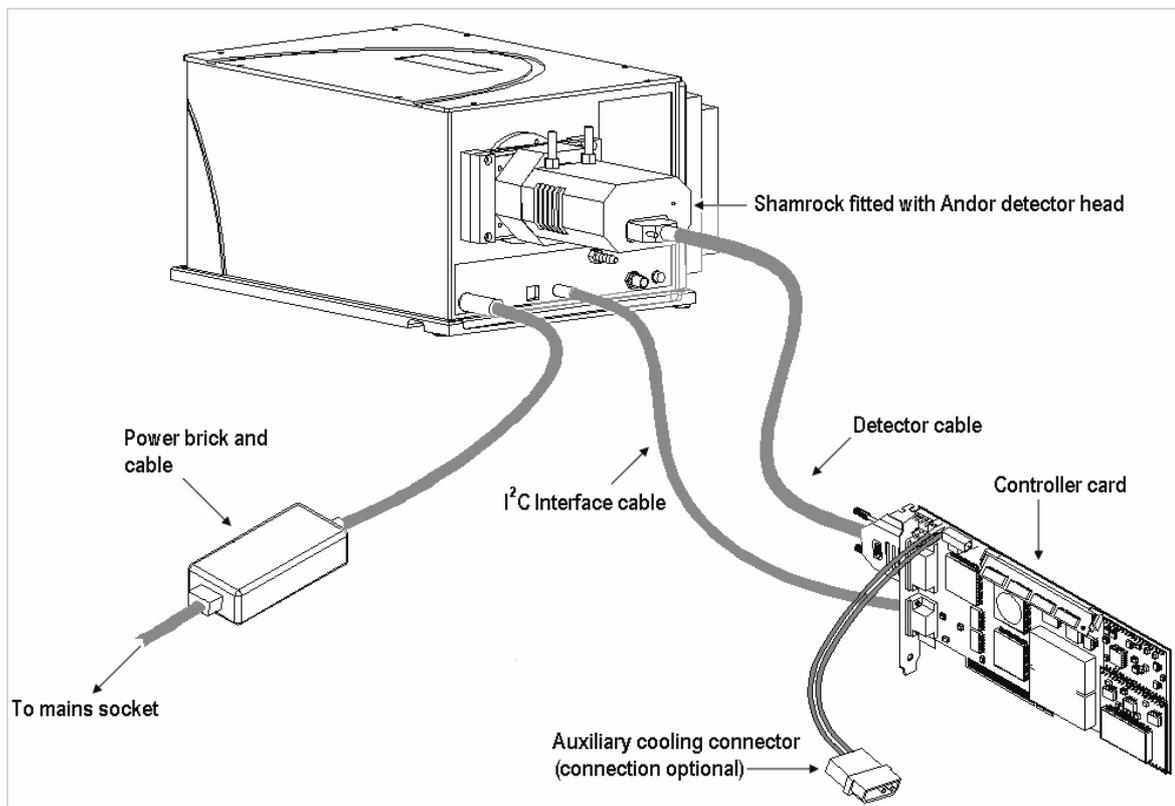

Figure 3: Hardware connections (PCI card CCD systems)
**Figure 3** illustrates the connection details for a standard Andor PCI CCD camera. The PCI Controller Card should be installed as you would other slot-in cards, such as graphic or parallel printer adapter cards. **Please consult the manual supplied with your PC to ensure correct installation of the Controller Card for your particular PC.** Please note that with PCI cards, there are no jumpers for you to set.